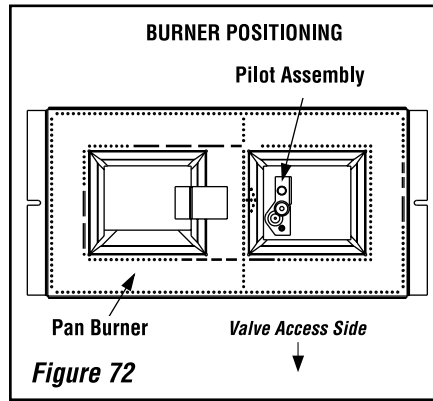

Figure 72
b. Install the burner as shown in **Figure 72**.